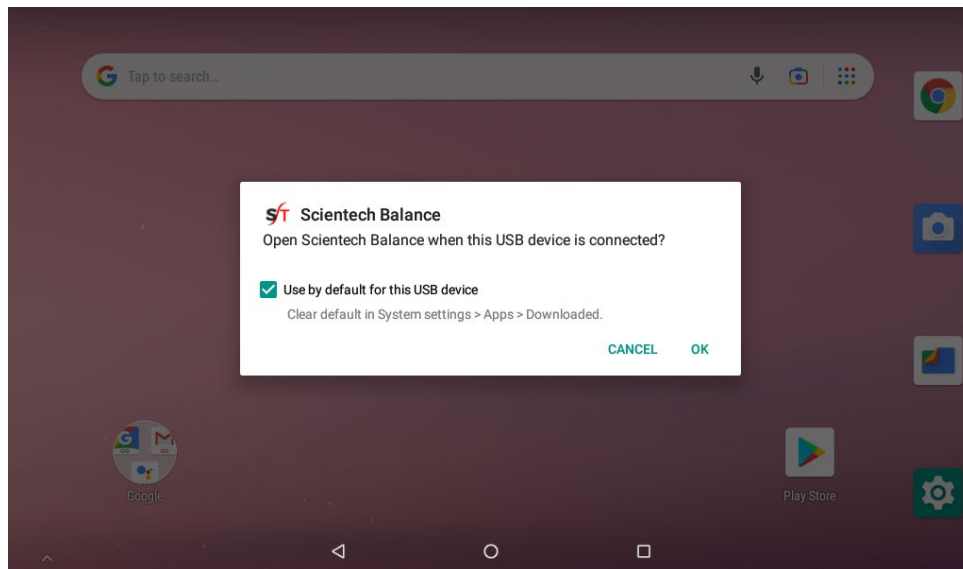
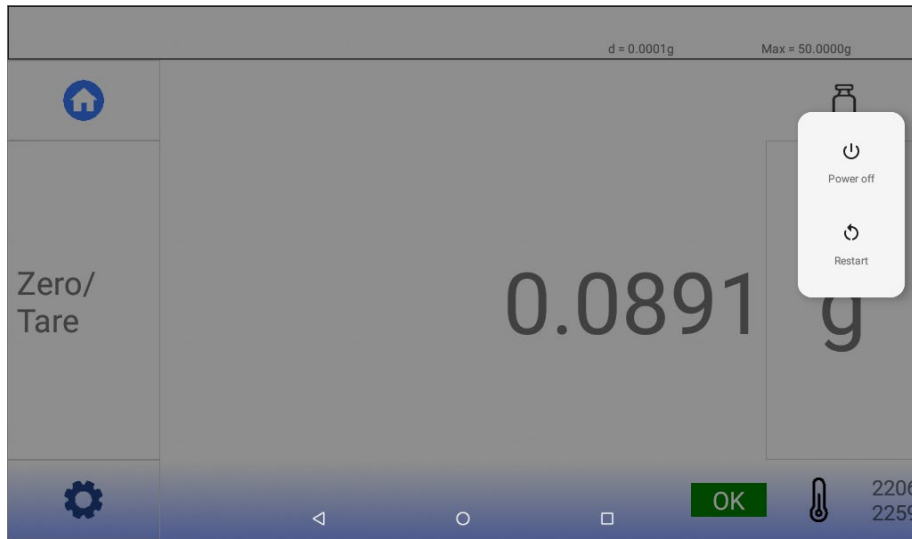

Figure 7 USB Configuration Setting
Figure 12. Android Operating System Power Off
4. A USB configuration banner may appear as illustrated in Figure 7. If this banner opens, check the “Use by default for this USB device” and then select “OK”. This establishes the USB connection between the balance and control module.
Do not hold the power switch for more than 1 second or an Android operating system banner will open with a choice of “Power Off” or “Restart” as shown in Figure 12. Pushing the power switch a second time will exit this banner and put the display in sleep mode.
reload. If the Figure 7 USB configuration page appears, check the box and select OK.
If “Restart” is selected from the Figure 12 banner option, the Android operating system will require about 30 seconds to reboot to the Figure 10 Android screen. Swiping up on this screen will launch the balance application after another 10 seconds. If the Figure 7 USB configuration page appears, check the box and select OK.